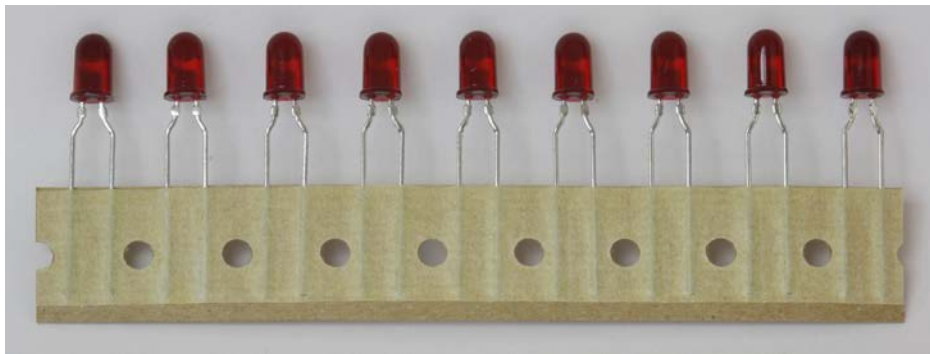

FIGURE 6-21 LEDs bought in tape form are generally better matched in terms of turn-on voltages than those bought in a bag or off the shelf.
In general, if you are going to parallel LEDs together, first they should be of the same color emission. Second, they should be matched, which, for example, can be done by purchasing the LEDs in “tape” form. See Figure 6-21.
- If you need to have matched turn-on voltage LEDs, purchase them on a tape, as shown in Figure 6-21.